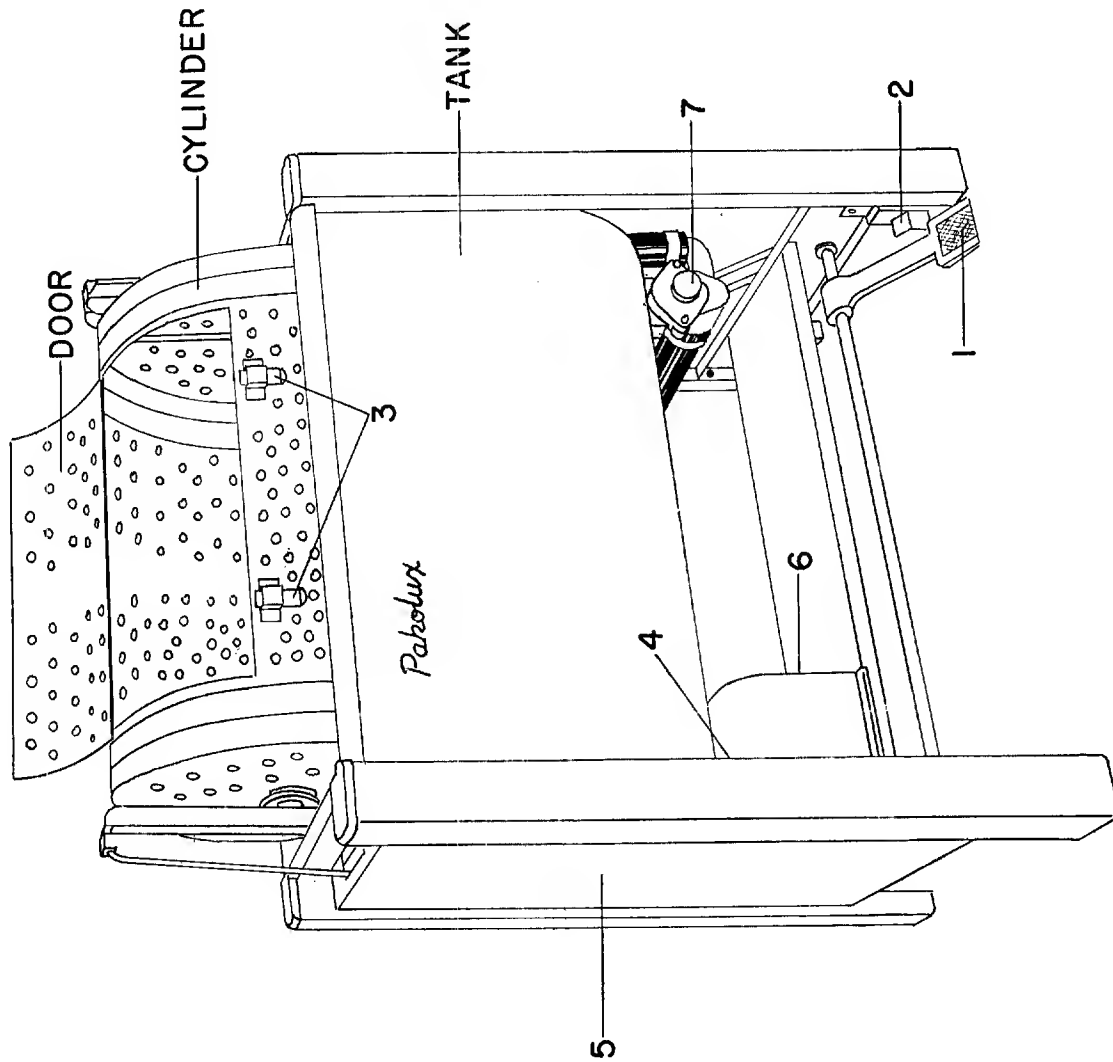

FIG. 1
**FOOT PEDAL**—To raise cylinder out of tank, step down on Foot Pedal, 1 (Fig. 1), located at the right end of machine. Allow Pedal Lock, 2 (Fig. 1), to hold Foot Pedal down. The cylinder can be raised and lowered while the machine is in operation.
**TO OPEN CYLINDER**—Rotate cylinder by hand until the index pin engages and holds the cylinder in position so the cylinder door may be opened. Push the Door Locks, 3 (Fig. 1), downward and lift door open. In this position, prints may be placed on the cylinder door for draining.
**DRAIN VALVE**—To drain tank, open drain valve, 7 (Fig. 1), located under right end of tank.
**END PANELS**—To remove End Panels, 5 (Fig. 1), lift up and pull out.
**BELT ADJUSTMENT**—To tighten the Motor Belt, loosen the bolts on the Motor Base and slide Motor toward the rear of the machine. To tighten the cylinder Drive Belt, loosen the Pulley Stud, 4 (Fig. 1), and slide downward in adjusting slot. Both belts should be just tight enough to drive without slipping—excessive tautness causes needless wear.
Oil the pulley Stud, 4 (Fig. 1) once a month.
Oil the motor, 6 (Fig. 1) every month. (One drop in each of 2 oil cups.)